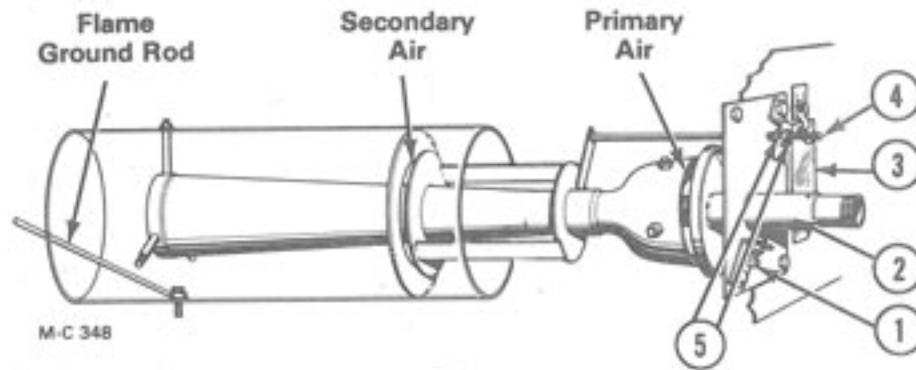

Figure 50
3. If the primary and secondary air adjustments have been misadjusted, time can be saved by shutting down the burner and starting over. Close the primary air adjustment all the way by loosening locking bolt (1) and turning the primary air adjuster pipe (2) clockwise, see Figure 50 and 51, then open it 1 1/2 to 2 turns. See note.
Close the secondary air adjustment all the way by loosening locknuts (5) and pushing the secondary air adjustment rod (4) in all the way, see Figure 50 and 52, then pull the adjustment rod out approximately $\frac{1}{8}$ inch.
Primary Air (See Figure 50 and 51)